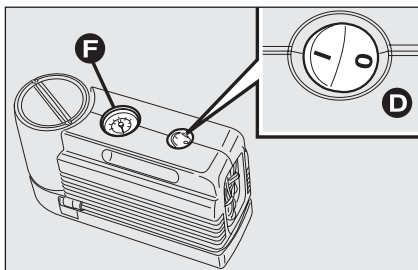
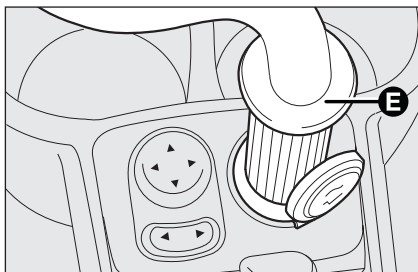

fig. 4
fig. 5
- check that the compressor switch **D**-fig. 4 is set at 0 (off), start the engine, fit plug **E**-fig. 5 into the 12V outlet located on the central console and then turn the compressor on setting the switch **D**-fig. 4 in position **I** (on). Inflate the tyre at the pressure value specified in paragraph "Inflation pressure" in section "Technical Specifications"
Check tyre pressure on gauge **F**-fig. 4 with compressor off to obtain precise reading;